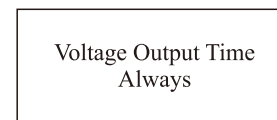

Figure 11
E. Voltage output time setting, as shown in Figure 11, the setting method is the same as filtration working time. The voltage output time is the output time of 24V voltage from the connector corresponding to the valid unit.